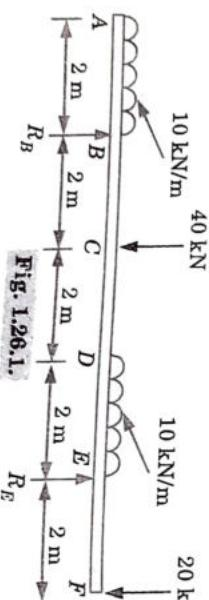

Fig. 1.26.1.
- Que 1.26.** Determine the reactions at B and E of the beam, loaded as shown in Fig. 1.26.1 below.